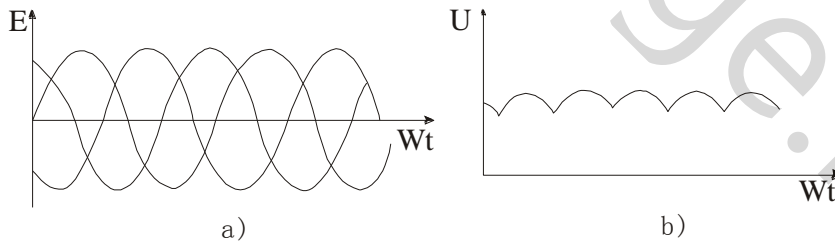

Fig.12-18 Voltage Waveform of Generator
(2) Rectifying principles of rectifier Three-phase bridge rectifier circuit formed by VD₁, VD₃, VD₅ and VD₂, VD₄, VD₆ rectifies three-phase AC electromotive force into an output direct current to the electric equipment and battery (Fig. 12-18), the three-phase bridge rectifier circuit composed of VD₇, VD₈, VD₉ and VD₂, VD₄, VD₆ is mainly used to provide the exciting current for field winding of generator.